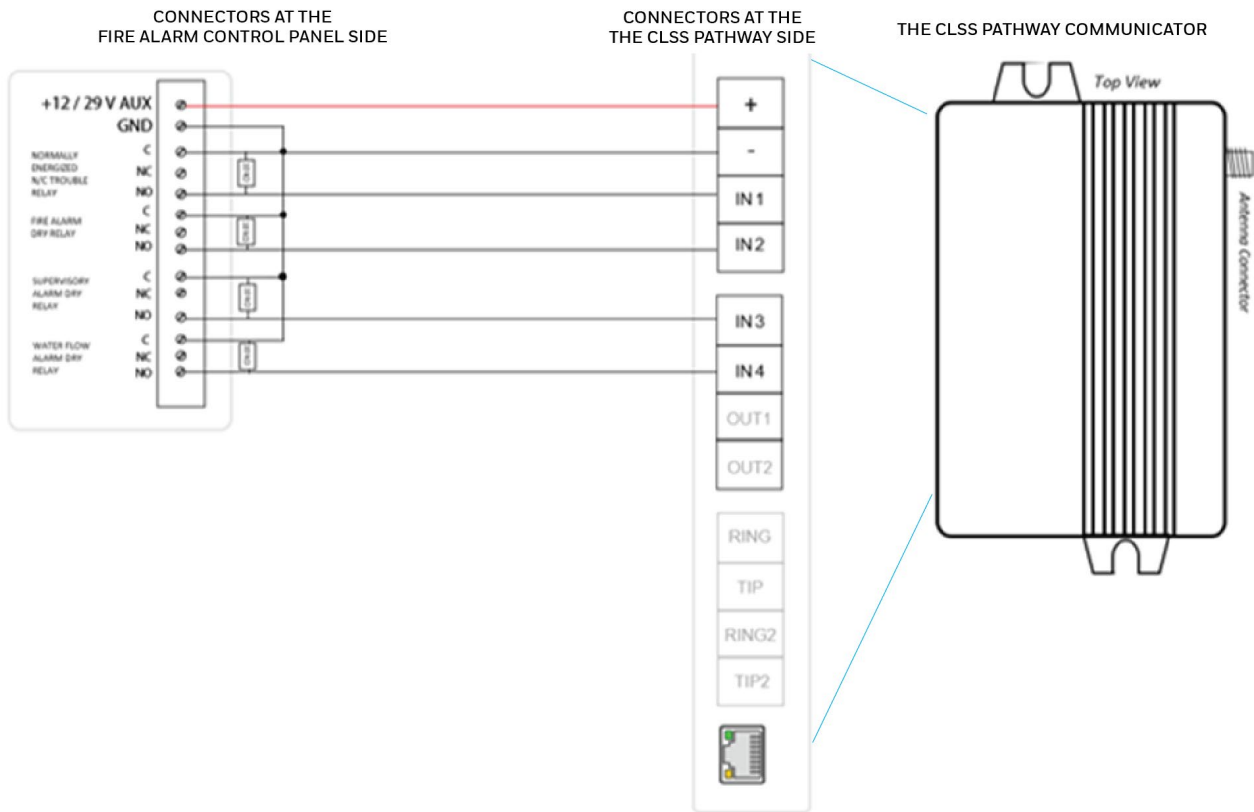

Figure 3: Wiring for Dry Contact Relay Monitoring
02. Connect the panel relay terminals and the communicator as in the Figure 3.